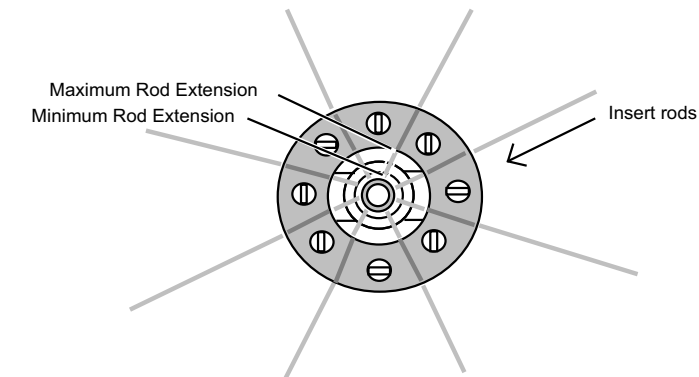

Figure-10: Inserting and adjusting radial rods
- [] Loosen radial-ring hardware and install rods, as shown in **Figure-10**.